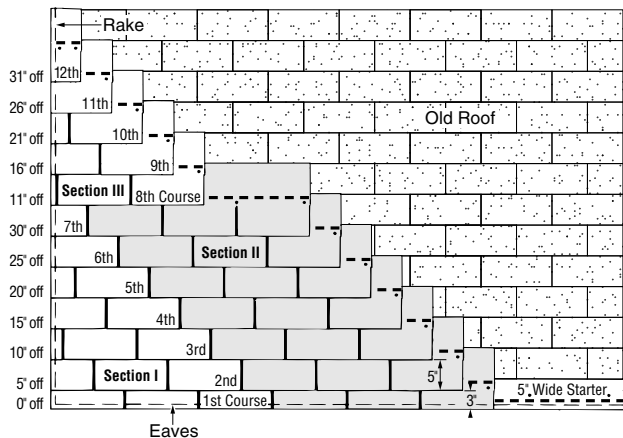

Figure 10-21: Five Off, Twelve Up, Nested.
**1ST COURSE:** The first course is made of 10" by 36" shingle strips made by cutting 2" off the bottom of the tabs of regular shingles. Align the top edge of the strips so they butt up against the tabs of the shingles in the old third course (Figure 10-21).
1. Begin the second course by cutting 5" off the left end of a shingle and aligning the top edge with the butt edge of the shingle in the old fourth course (Figure 10-21).
1. Begin the eighth course by cutting 11" off the left end of a shingle and applying the 25" piece over the seventh course shingle, aligned with the left edge of the seventh course (Figure 10-21).